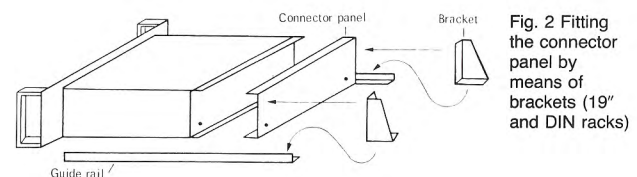

Fig. 2 Fitting the connector panel by means of brackets (19" and DIN racks)
**Brackets** are used to secure the appropriate connection panel (specify equipment type when ordering) for self-engaging connection (Fig. 2).
**Brackets** see above and Fig. 2.